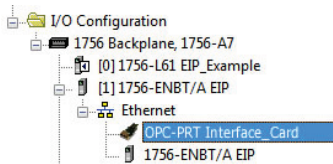

Figure 48: AOP Interface Card I/O Configuration
- 14) You should now see the interface card in the 1756-ENBT/A branch under the I/O Configuration in the controller organizer view. The full I/O Configuration tree should appear similar to Figure 48.